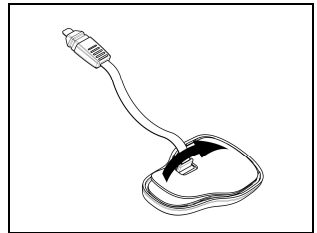

Fig. 3
- Remove the protective film from the back of the adhesive keypad using the special tab (Fig. 3).